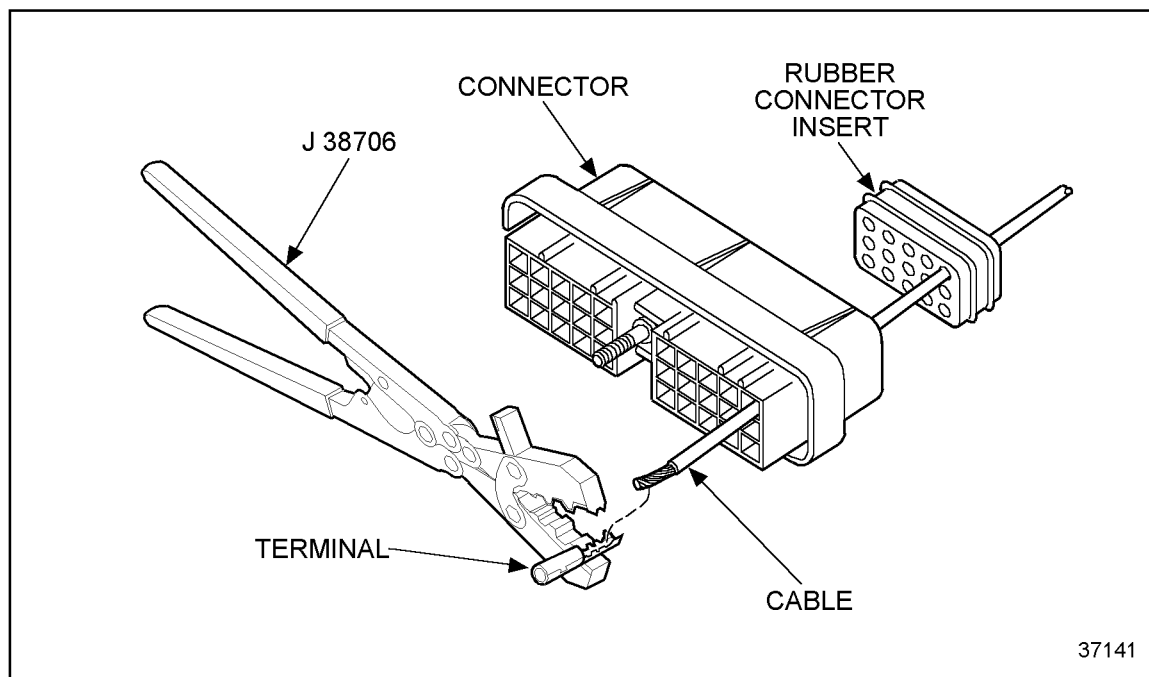

Figure 8-16 **Typical Terminal Position**
3. Insert the terminal into the locating hole of the crimping tool using the proper hole according to the gage of the cable to be used. See Figure 8-16.